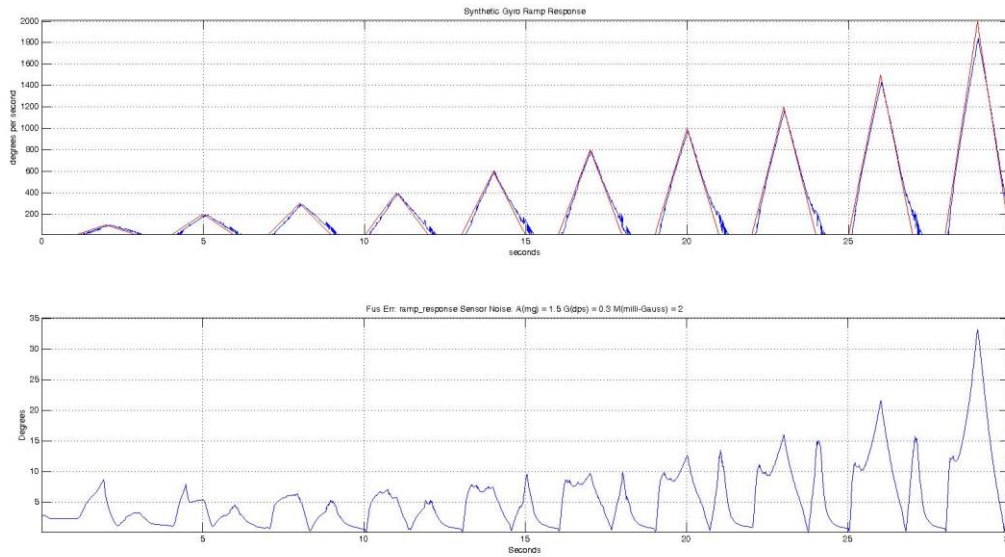

Figure 2 : Synthetic Gyro Ramp Response and Sensor Fusion output (full range 0-2000dps)
1. In figures 2-5 the variable filtering is easy to see. In particular, Figure 2 shows this in a very visible way as the time lag for the portion of the ramp with low angular velocity is obviously much greater than the time lag for the portion of the ramp (near the peak) with high angular velocity.